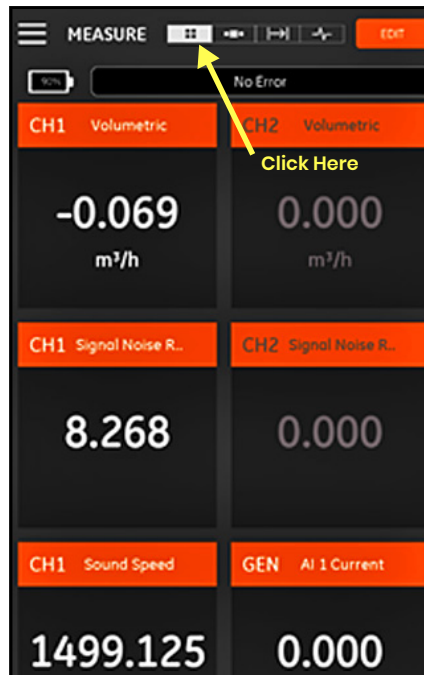

Figure 115: Multiple Measurement Screen
In *Figure 115* below, note that CH1 has been turned On and CH2 has been turned Off in the PROGRAM menu. Also, no AI source is connected to the General channel, because the value is zero.
icon at the top of the screen (see *Figure 115 on page 82*). Note the following:
- An Error Status box is located just above the measurement display section of the screen. If there are no system errors, No Error is displayed (see *Figure 115 on page 82*). However, if a system error does occur, the error information is displayed in this location with a flashing red background.